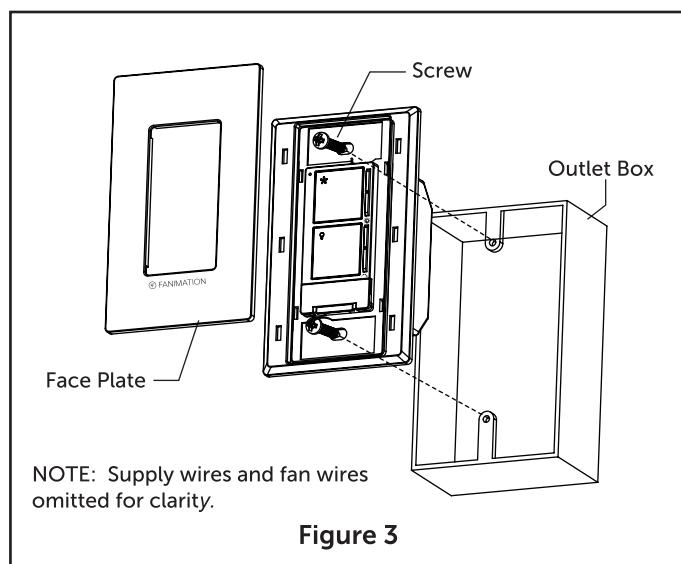

Figure 3
4. Attach wall control unit to outlet box using the two screws provided. Then, attach face plate to the wall control. (Figure 3)